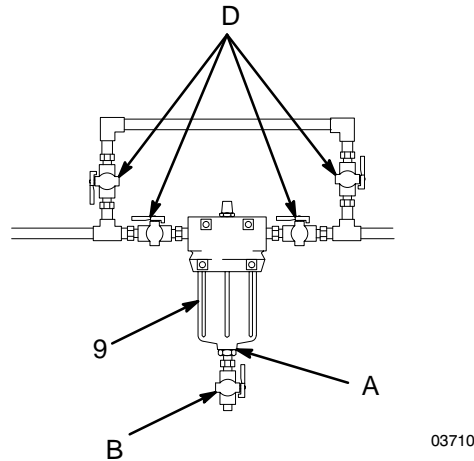

Fig. 2
Install the filter and bypass pipes as shown in Fig. 2. An adapter (A) and drain valve (B) must be installed in the filter bowl (9) to relieve fluid pressure and drain the filter before removing the bowl. Install four suitable shutoff valves (D), one at the filter inlet; the filter outlet; the bypass pipe inlet; and the bypass pipe outlet, to redirect the fluid and isolate the filter while cleaning and servicing.